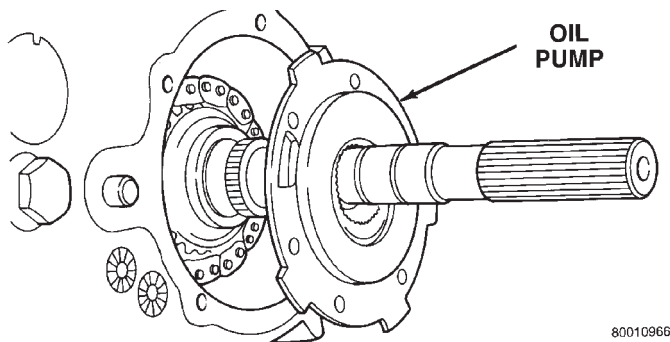

Fig. 15 Oil Pump Removal
(9) Remove rear bearing O.D. retaining ring with snap ring pliers. Then tilt pump and slide it off output shaft (Fig. 15).